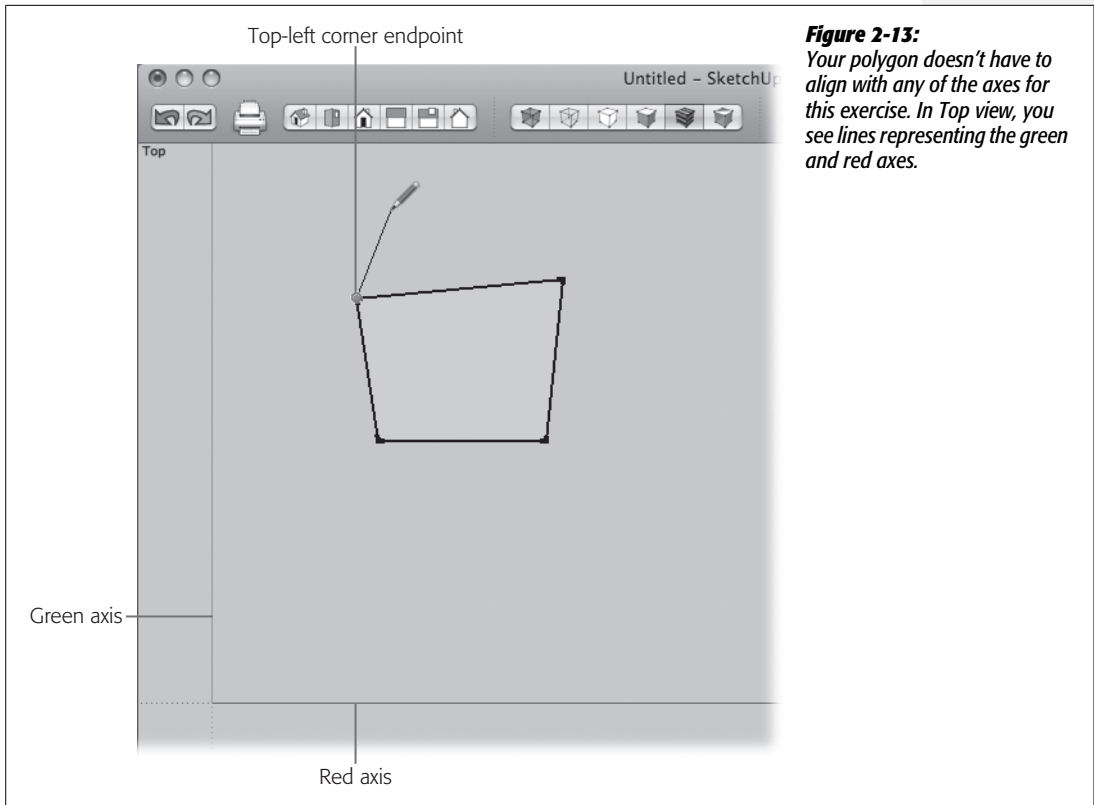

Figure 2-13: Your polygon doesn't have to align with any of the axes for this exercise. In Top view, you see lines representing the green and red axes.
1. Using the Line tool (pencil), draw Skeeter's face—a four-sided polygon like the one in Figure 2-13.
4. With the Line tool, click the top-left endpoint to begin drawing a line, as shown in Figure 2-13.